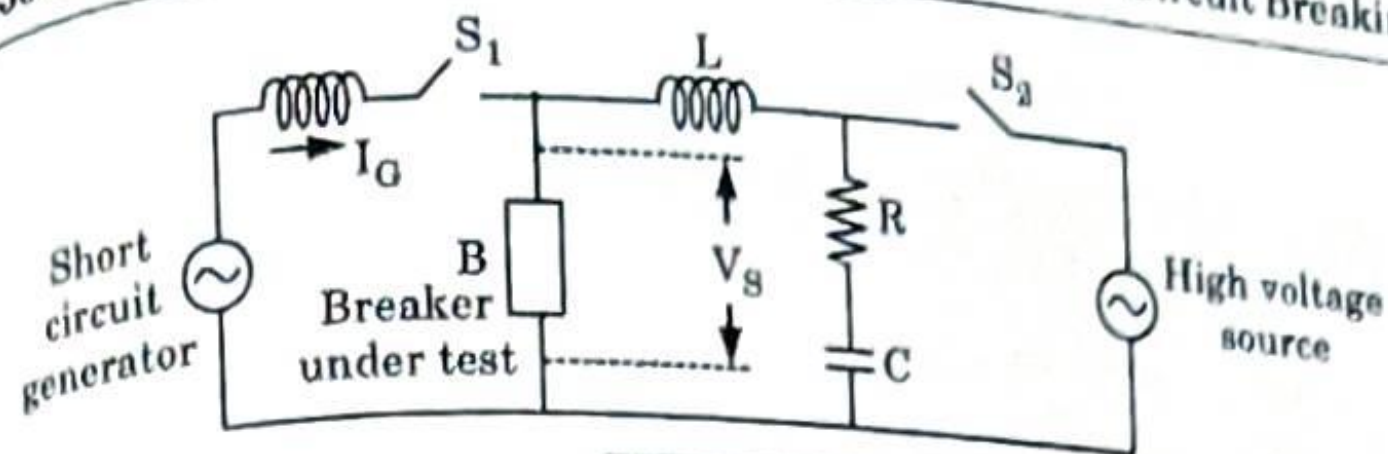

Fig. 4.21.1.
1. It consists of current source and voltage source with relatively low voltage and low current respectively. The principle of synthetic testing can be explained from the Fig. 4.21.1.